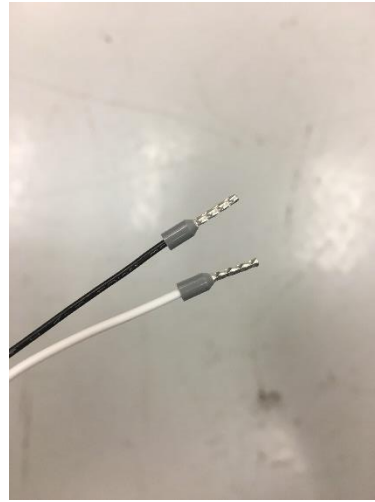

Figure 14: New Analog Terminals
6.4.8 **Connect** analog input conductors (for MC1: 253 & 70; for MC11: 255 & 70) to Ai1 & L respectively, on the control circuit terminal. See *Figure 14 & 15* below for method and location.